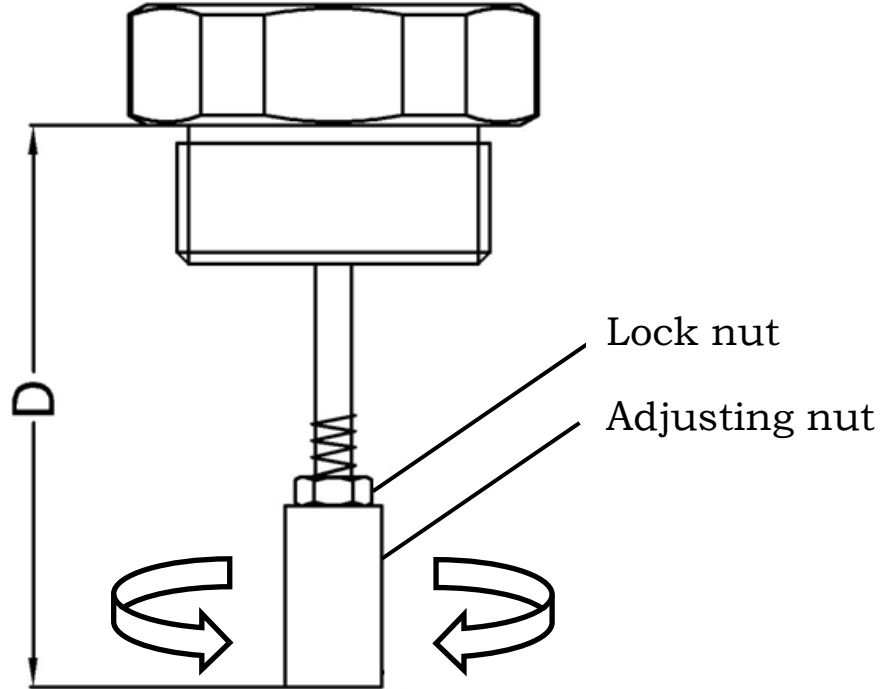

Figure 39. D value adjustment
- Adjust the adjusting nut of the displacement sensor. Then measure the D value (as shown in Figure 39) by **the depth ruler** in the state of the displacement sensor being completely loosened. Calculate the compression value $L1 = D - C1$, $L2 = D - C2$. It is recommended that the compression value L1 and L2 are both in the reference range which is showed in Table below. If L1 value or L2 value is unable to meet the reference range, adjust the D value according to the actual situation.